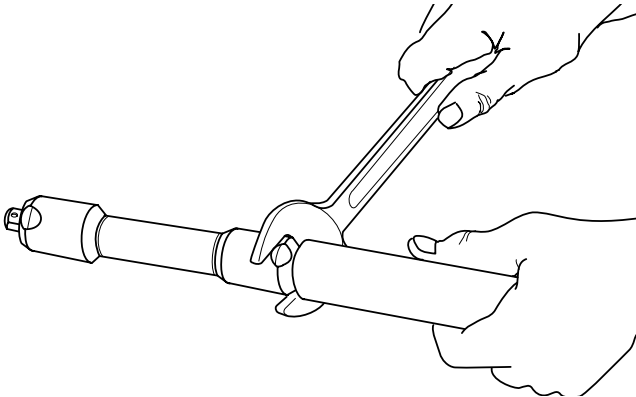

Figure 5. Remove fuse cartridge from fuse cartridge holder.
- Use a 3/4 inch (19 mm) wrench to remove fuse cartridge from fuse cartridge holder. (See Figure 5.)